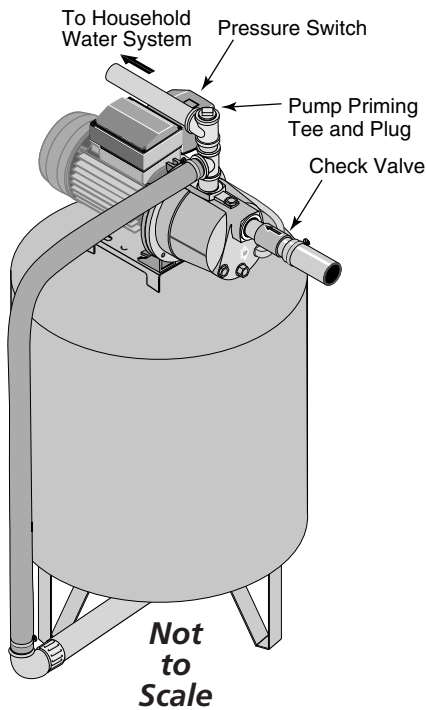

Figure 4 – Pre-charged Tank Connections
## PRE-CHARGE TANK CONNECTION (FIGURES 4 AND 5)
1. Install two tees in the pump discharge port (see Figure 4). The pipe size must be at least as large as the discharge port.